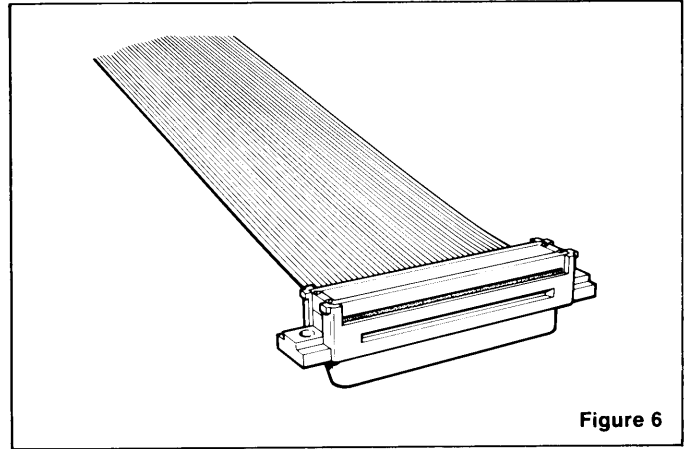

Figure 6
- c. Cable is perpendicular to connector. (Figure 6)